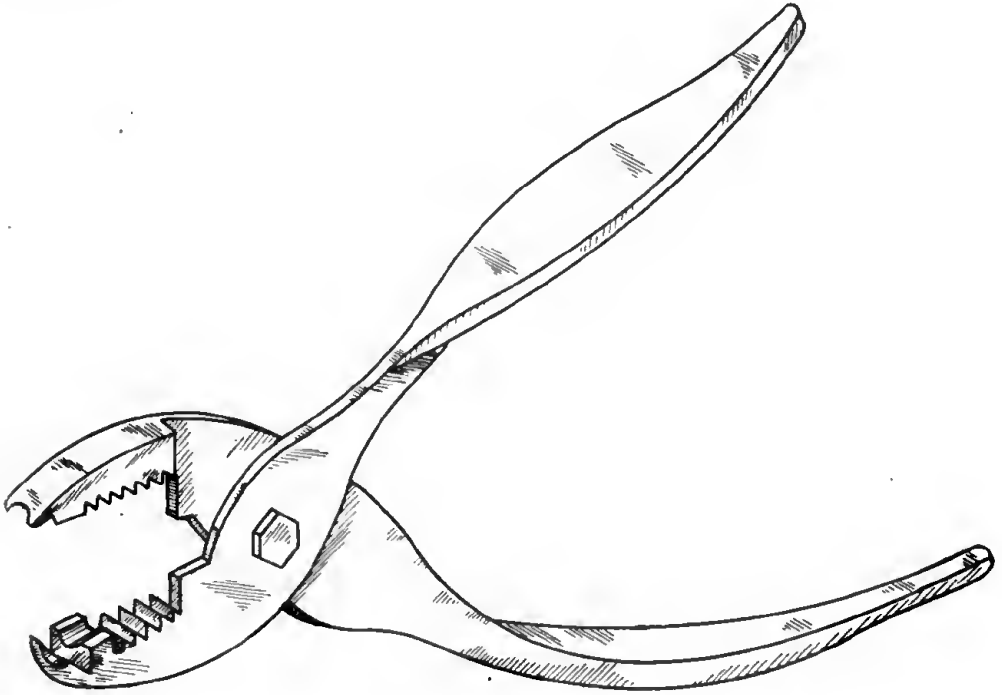

Figure 171. Screw-holding pliers.
e. **SCREW-HOLDING PLIERS.** Screw-holding pliers, used to start riv-nut screws, may be made by filing an ordinary pair of pliers as shown in figure 171.